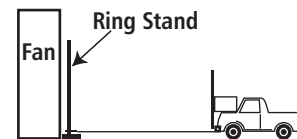

Figure 12
8. Adjust the pulley height so that the kite string is even with the height where it was tied to the vehicle. The string will be parallel to the floor and the same height for both vehicles (figure 12).